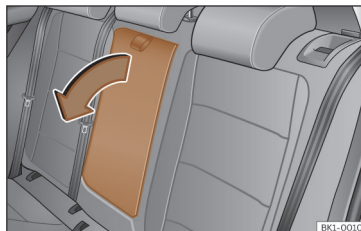

Fig. 106 Folding rear centre armrest (schematic view).
- To *lower* the armrest, pull the cord in the direction of the arrow >>> **Fig. 106**.